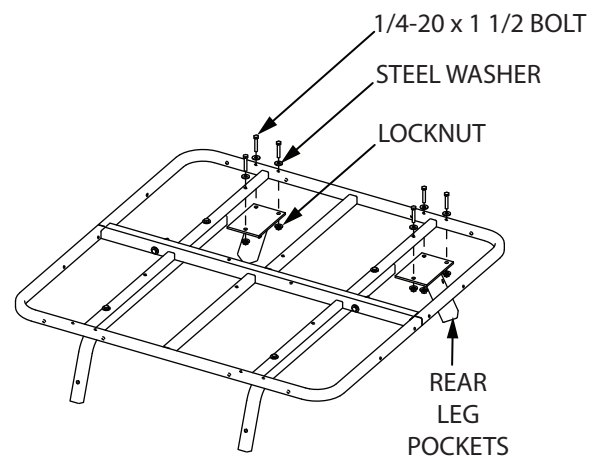

FIGURE 3
3. Attach the two rear leg pockets w/ plates (TP151 & TP152) to the bottom of assembled platform using (6) provided 1/4-20 x 1-1/2" bolts, locknuts and steel washers. **SEE FIGURE 3**